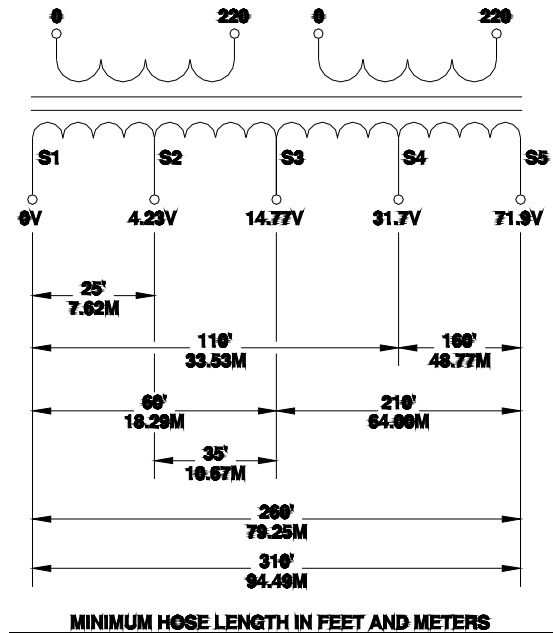

Figure 18. Transformer Tap Settings
ALWAYS reduce the Hose Heat Transformer voltage by adjusting the tap setting LOWER to match the shorter hose length each time an additional hose segment is unplugged. (See Figure 18.)
- c) Adjust the tap settings of the Hose Heat Transformer to match the next shortest length of heated hose (see Figure 18).